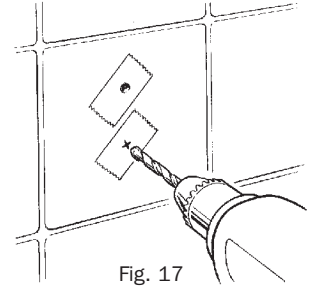

Fig. 17
5. Drill the holes, using a 6.5mm (1/4") masonry bit. On tiled surfaces, the applied adhesive tape will help guide the drill bit, Fig. 17.